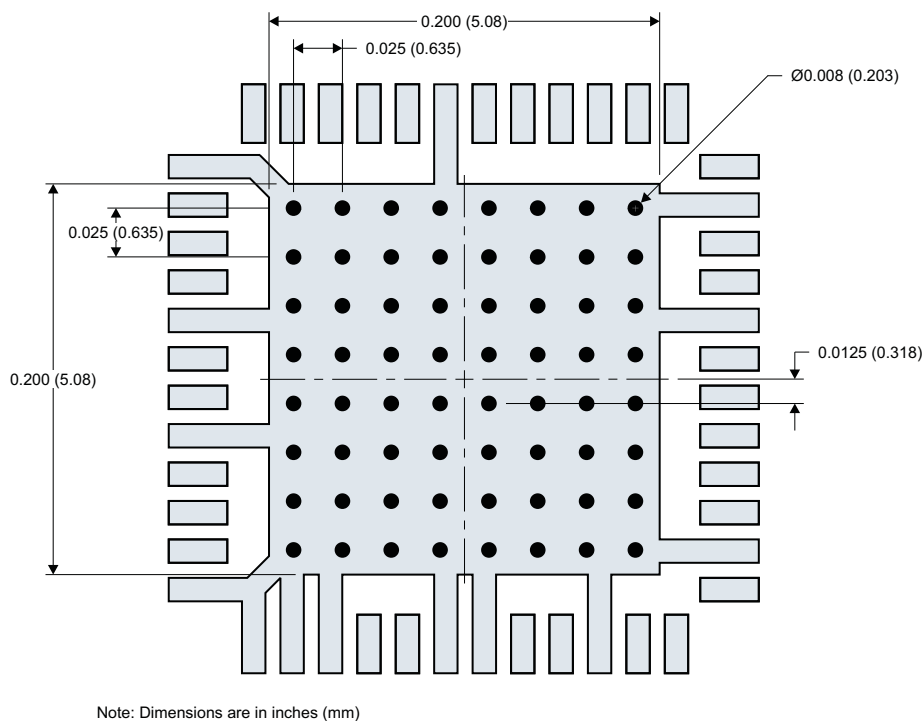

Figure 44. PCB Layout Guidelines
The TRF371109 device is fitted with a ground slug on the back of the package that must be soldered to the printed circuit board (PCB) ground with adequate ground vias to ensure good thermal and electrical connections. The recommended via pattern and ground pad dimensions are shown in Figure 44. The recommended via diameter is 8 mils (0.2 mm). The ground pins of the device can be directly tied to the ground slug pad for a low-inductance path to ground. Additional ground vias may be added if space allows. The no-connect (NC) pins can also be tied to the ground plane.